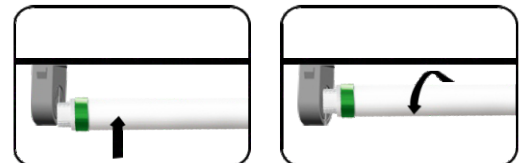

Fig. 3
5. Ensure that the pins are firmly seated in the lampholders. (Fig. 3)